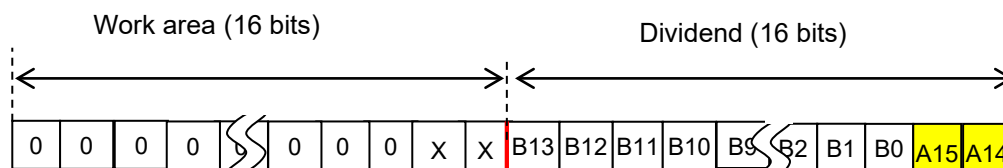

Figure 3.5 The Second Execution Result
- (4) The work area and the dividend of a result which performed (2) and (3) for the following digit are shown in Figure 3.5.